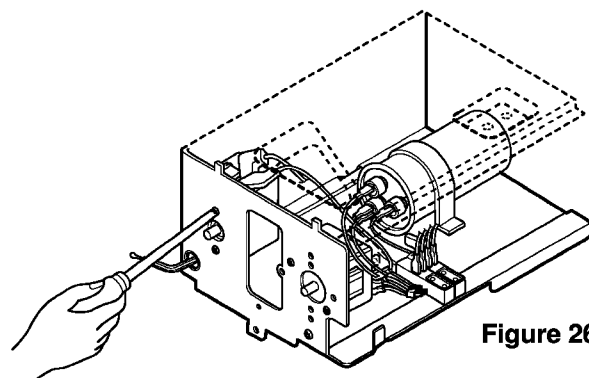

Figure 26
6. Re-install the components by referring to the above removal procedure. (See Figure 26)